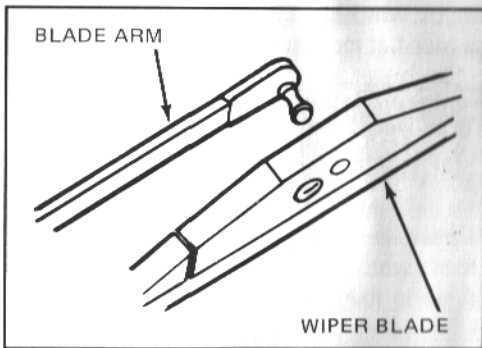

Figure 2 - Removing wiper blade
- While pressing down on the release lever, support the arm and gently, but firmly, pull the blade straight off. See Figure 2.